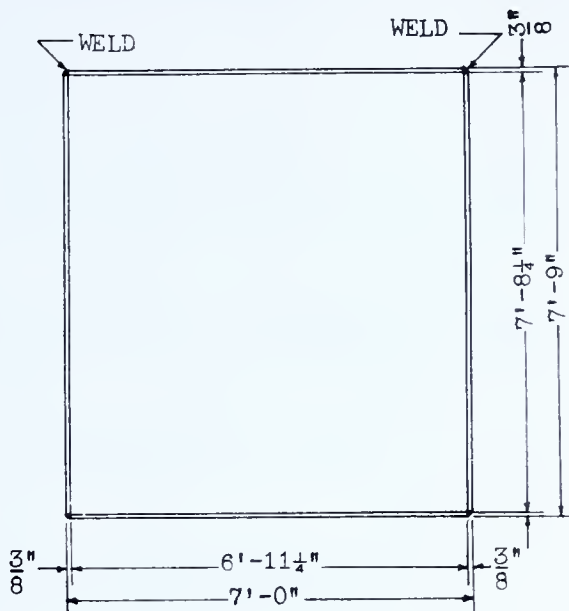

FIG. 338 — Expansion Piece
- 2. Make two templates for the rectangular box (expansion piece) 83 shown in Drawing 241-880-1, Right. See Fig. 338.